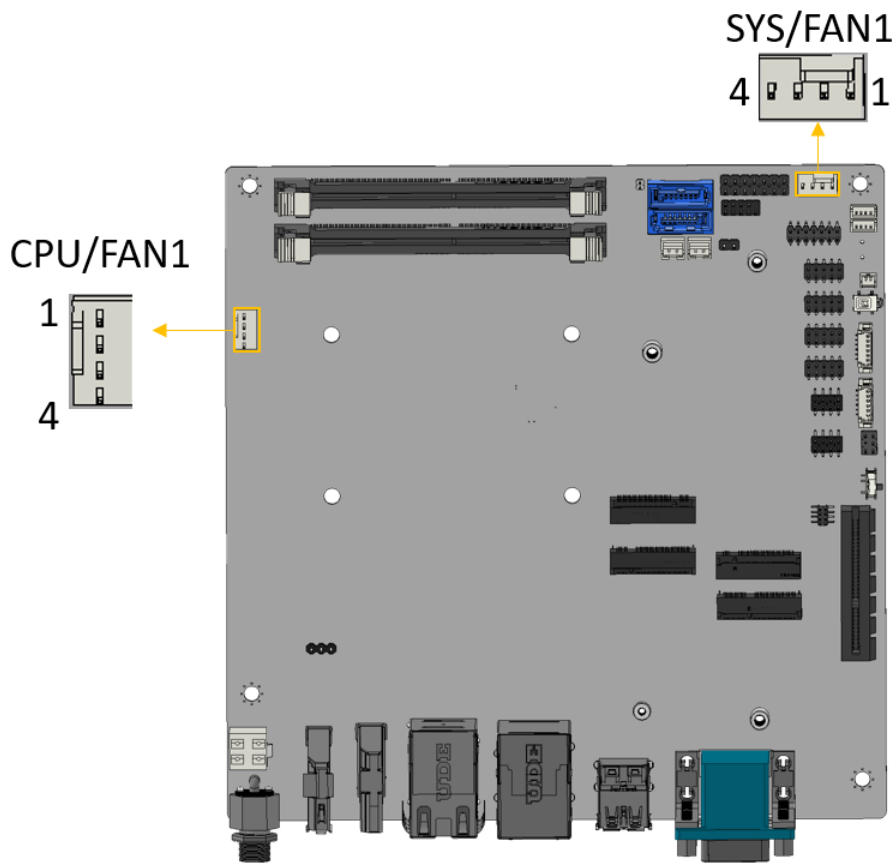

Figure 3-10: Fan Connector Location
- CN Location:** See Figure 3-10